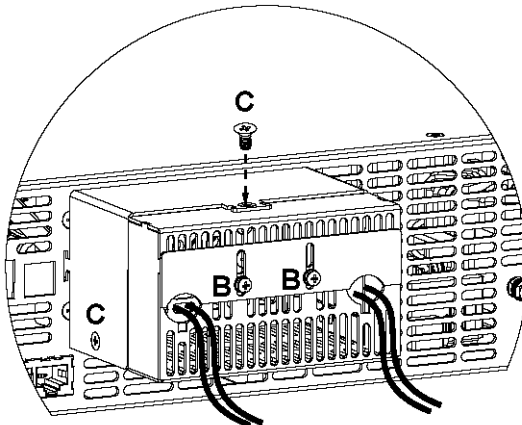

Fig. 3-10: Enclosure assembly
- f) Assemble the enclosure bottom cover to its place, as shown in Fig. 3-10, using screws "C", 3 places (tightening torque 4.8-5.3 Lb-inch).